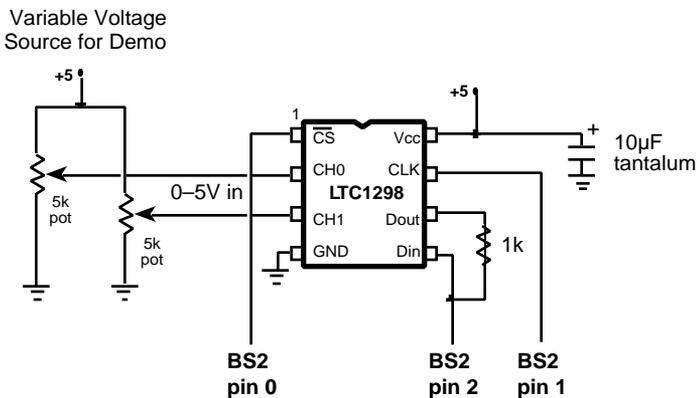

Figure 6. Schematic for LTC1298.BS2.
**Serial ADC with Shiftout and Shiftin.** The third example (figure 6, listing 3) uses Shiftout and Shiftin to hold a two-way conversation with an LTC1298 ADC. An initial Shiftout sends configuration bits to the LTC1298 to select channel and mode, then a Shiftin gets the 12-bit result of the conversion. The program listing concentrates on the mechanics of the Shift instructions; for more detailed information on the ADC itself, see Stamp Application Note #21 or the manufacturer's spec sheet.